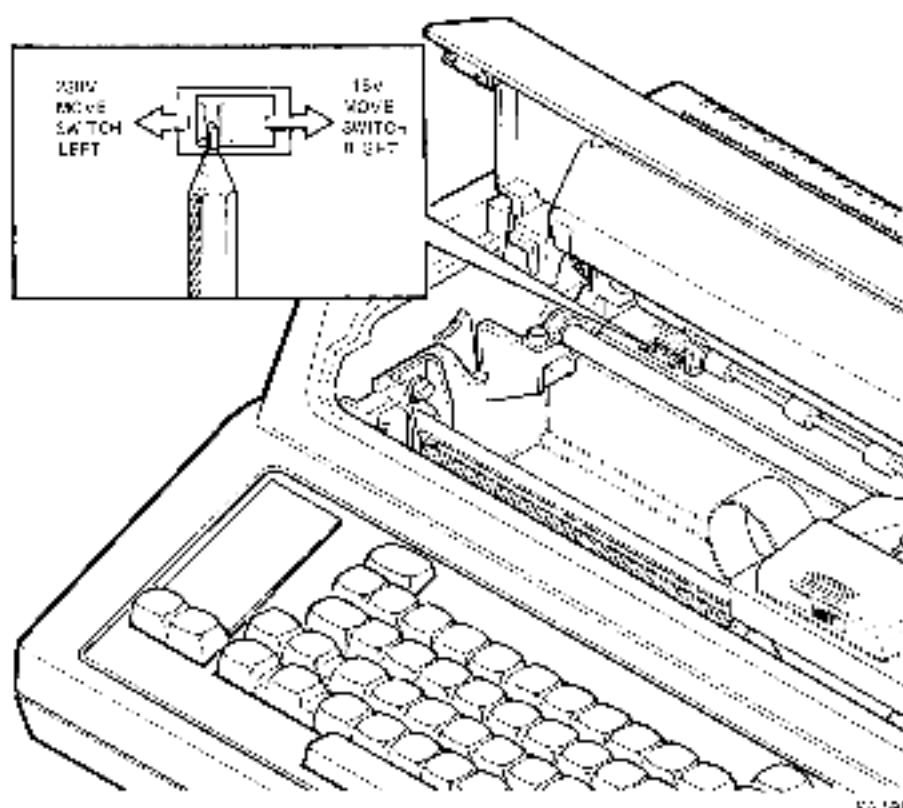
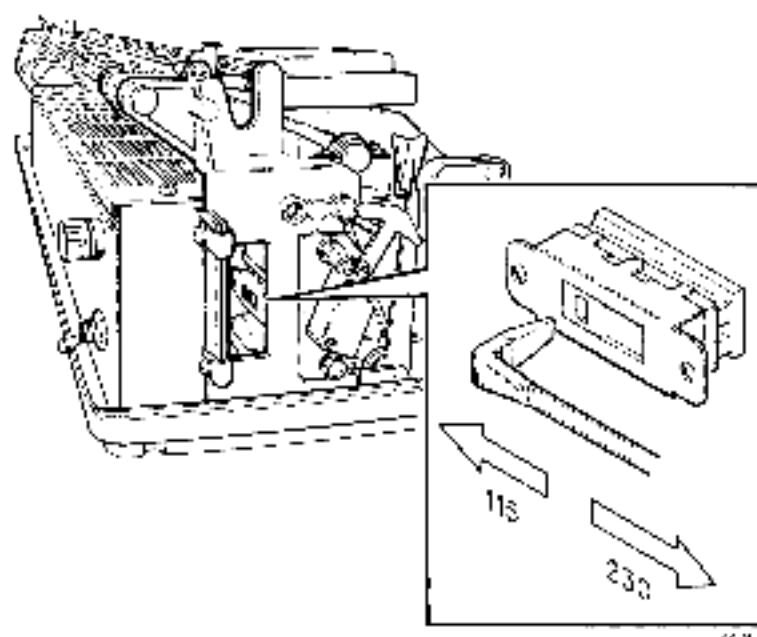

Figure 2-4 AC Voltage Selector Switch
Figure 2-5 Alternate AC Voltage Selector Switch Location
Figures 2-4 and 2-5 illustrate two different locations of the 115/230 voltage selector switch. If the location of this switch in your terminal is as shown in Figure 2-4, perform the following steps to select the proper voltage range. If the switch is located as shown in Figure 2-5, refer to Alternate AC Voltage Selection (Paragraph 2.5.3) for the procedure to select the proper voltage range.
2. Using a small blade screwdriver or ballpoint pen select the desired ac input voltage range (Figure 2-4).
If the ac voltage selector switch is located as shown in Figure 2-5, perform the following steps to select the proper voltage range.
7. The voltage selector switch is now accessible (Figure 2-5).
8. With the right angle screwdriver, select the proper voltage range by moving the switch (Figure 2-5).